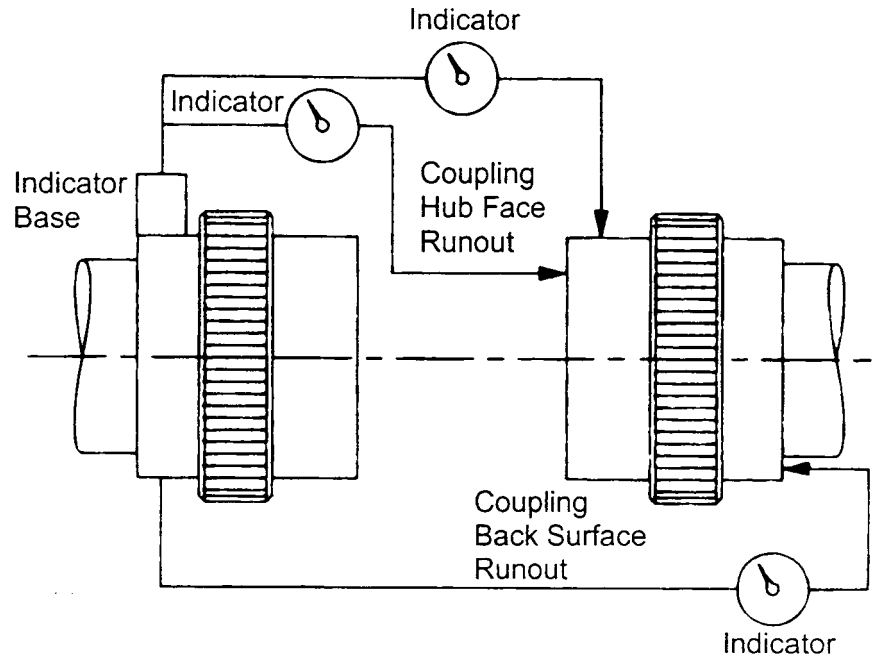

Figure C-13. Alignment Using Dial Indicators
1. Install dial indicator (refer to Figure C-13, *Alignment Using Dial Indicators*) to read a point nearest to the outside circumference on the face of one hub.
3. Re-position the dial indicator to read on the external outside diameter of the same hub as in step 1 and measure coupling hub diametral runout, as shown in Figure C-13, *Alignment Using Dial Indicators*.
- a. Clamp a dial indicator to one coupling hub and place the finger (contact point) against the finished face of the other hub, as shown in Figure C-13, *Alignment Using Dial Indicators*.
2. Use a dial indicator mounted on a flexible arm to measure run-out on the back surface of the coupling hub, as shown in Figure C-13, *Alignment Using Dial Indicators*.
- b. Mount the dial indicator on one of the coupling hubs and position the indicator finger on the rim of the opposite coupling hub, as shown in Figure C-13, *Alignment Using Dial Indicators*.